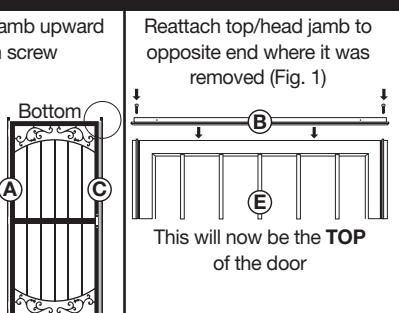

Fig. 11
Fig. 11 - Move top/head jamb (B) to what is now the top of the door. Tighten the screws for the hinges and pre-hang clips. Reinstate top/head jamb (B) with existing screws.